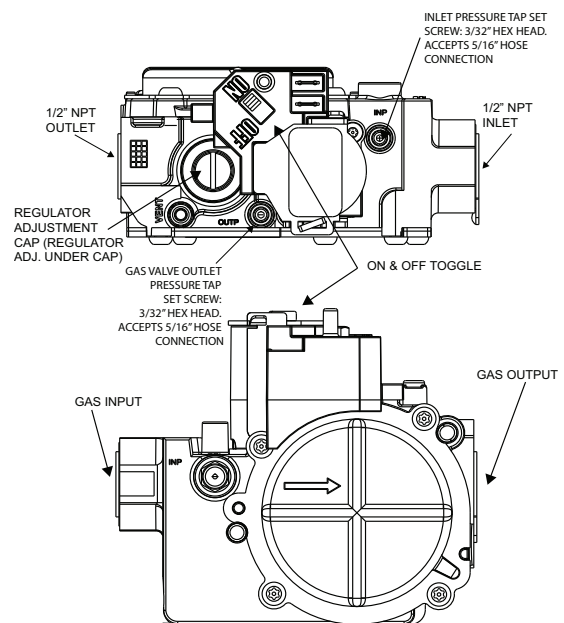

Fig. 59 – Gas Control Valve
- b. Loosen set screw on outlet tower pressure tap no more than one full turn with a 3/32 in. hex wrench. (see Fig. 59)